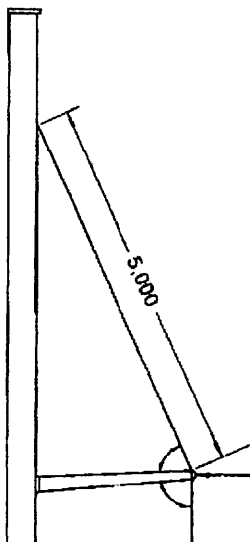

Fig. 8
Secure the tips of the spreaders to the upper shrouds (See Fig. 8).
**NOTE:** 1) A SPREADER SHOULD BE ADJUSTED SO THAT THE ANGLES BETWEEN THE SHROUD AND SPREADER ABOVE AND BELOW ARE EXACTLY EQUAL (see Fig. 8) FAILURE TO DO THIS CAN CAUSE THE SPREADER TO SLIP WHICH COULD RESULT IN THE LOSS OF THE MAST.